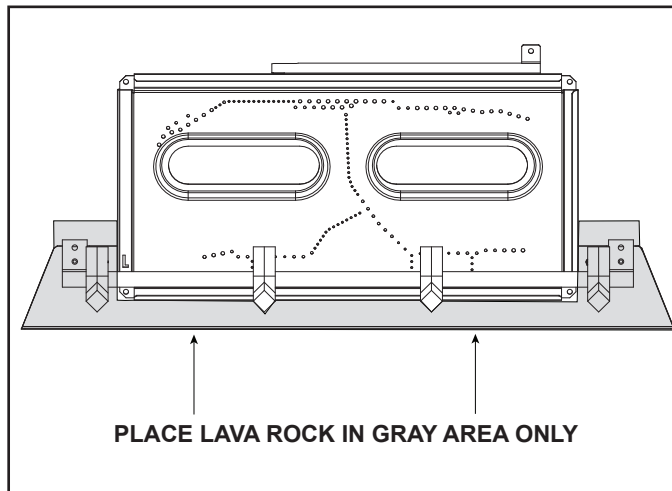

Figure 11.6 Placement of Lava Rock
- Place lava rock in front of and to the sides of the burner. See Figure 11.6.